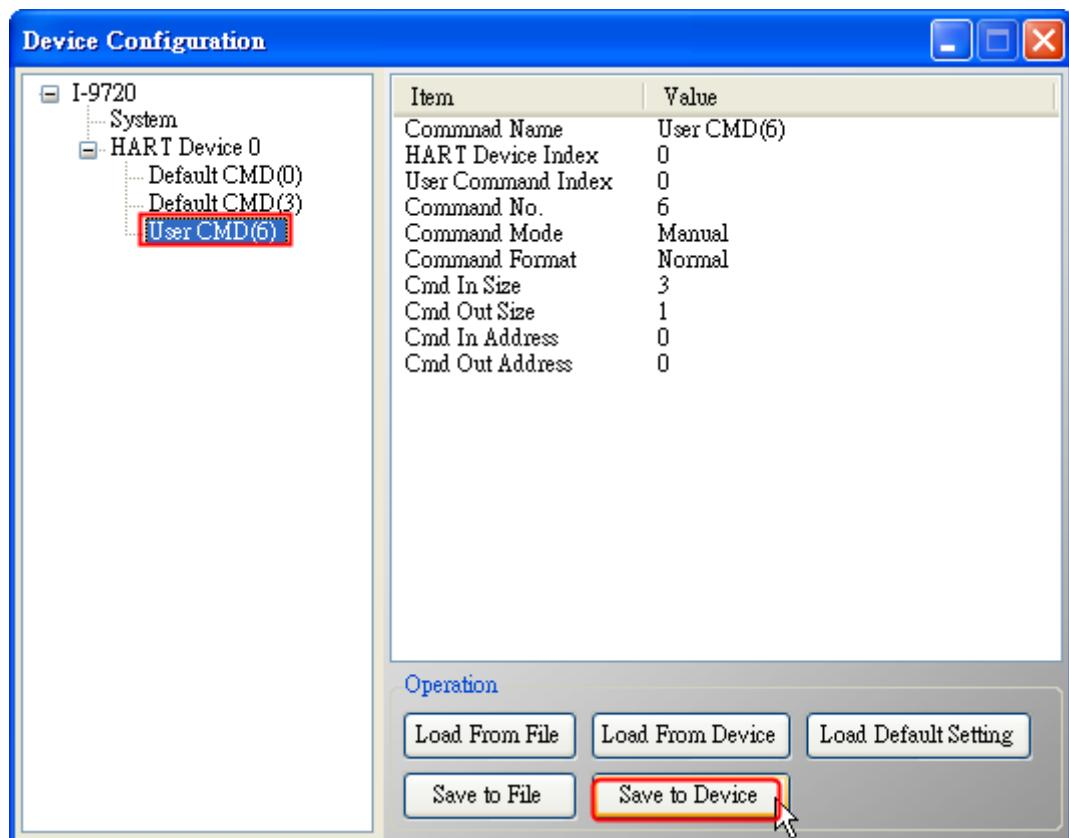

Figure 12-2 : “Save to Device”
- (4) Click “Save to Device” button. (Figure 12-2)